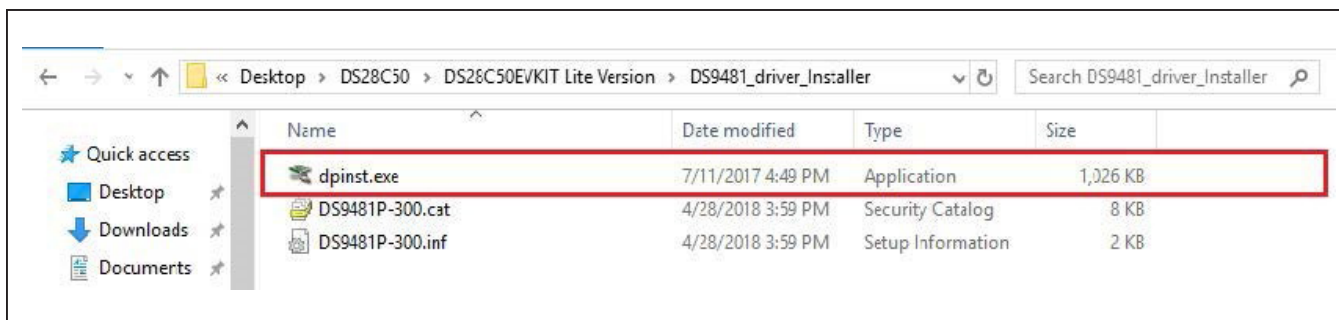

Figure 2. File Viewer with DS9481 Device Driver Installation File
- b) Run **dpinst.exe** (Figure 2).